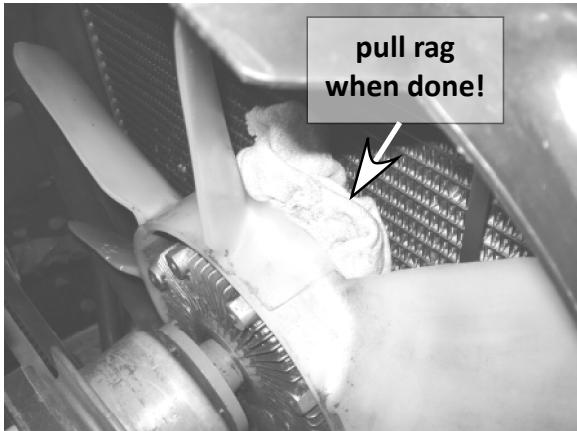
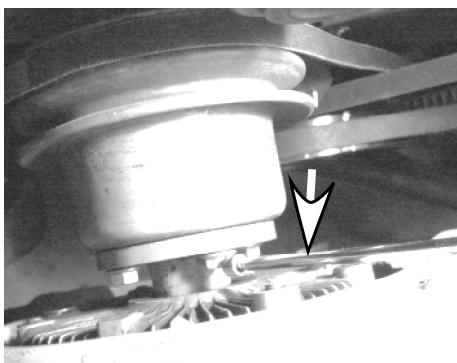
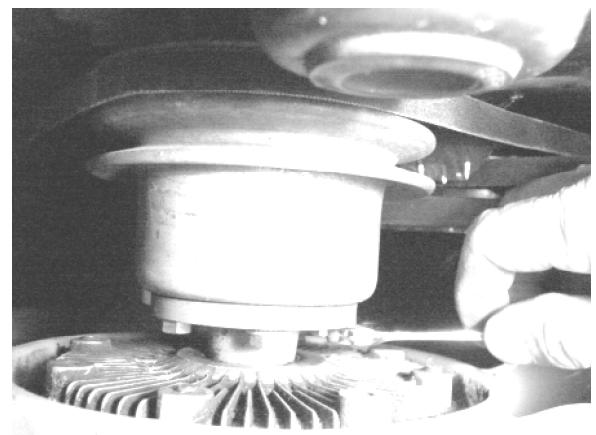

Figure 28.
Figure 29.
Figure 30.
17. Put on the fan/clutch assembly. Stuff a rag between the fan and radiator to help hold the fan in place as you tighten the 10 mm nuts (**Figure 28**). A telescoping magnet (arrow, **Figure 29**) is useful for starting the nut on the stud, as space is cramped. Use a 10 mm wrench to tighten the nuts (**Figure 30**), working opposite sides as you go, to gradually pull the assembly firm against the waterpump pulley. This tightens the belt. **Remove rag!**